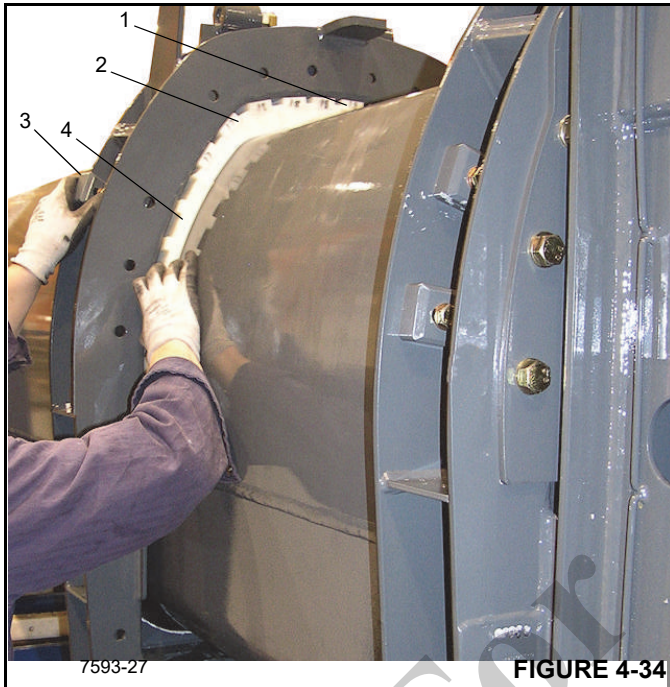

FIGURE 4-32
6. Measure gap between outer side wall of section 5 and inner side wall of section 4, refer to (Figure 4-32). Do this for both sides of section 5. Note measurements.
8. Slide section 5 into section 4 until one of the set screws of each of the bottom corner outer wear pads on section 5 is visible through the access holes of section 4 (Figure 4-32). Tighten each set screw (Figure 4-32) to force its wear pad to touch the inside wall of section 4. Then back off the set screw one-half turn. Repeat this for the other set screw in each wear pad.